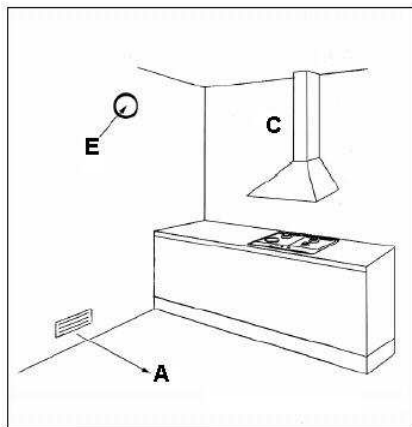

Figure 4.
See **figure 4** below.
Combustion fumes produced by gas appliances must get outside by means of a hood (C) connected either directly to an exhaust duct or to the outside. See figure 4 above.
See figure 4 above. This electric extractor fan must have a sufficient capacity to guarantee a change of air of the kitchen (or area) of at least 3 to 5 times its volume.